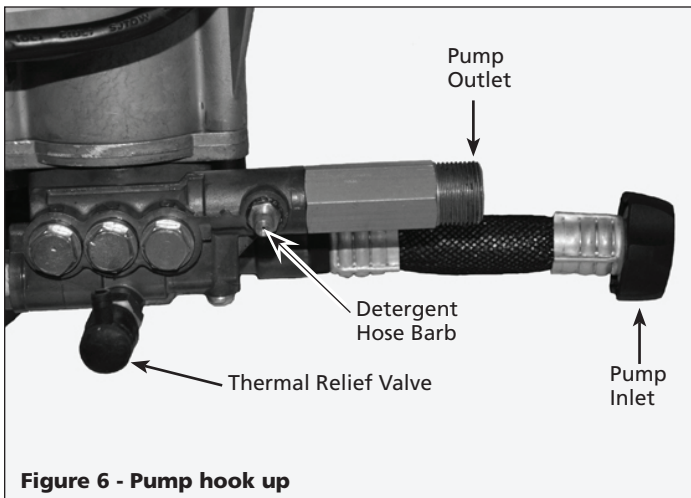

Figure 6 - Pump hook up
3. Secure garden hose (not included) to the inlet connection on pump (See Figure 6).